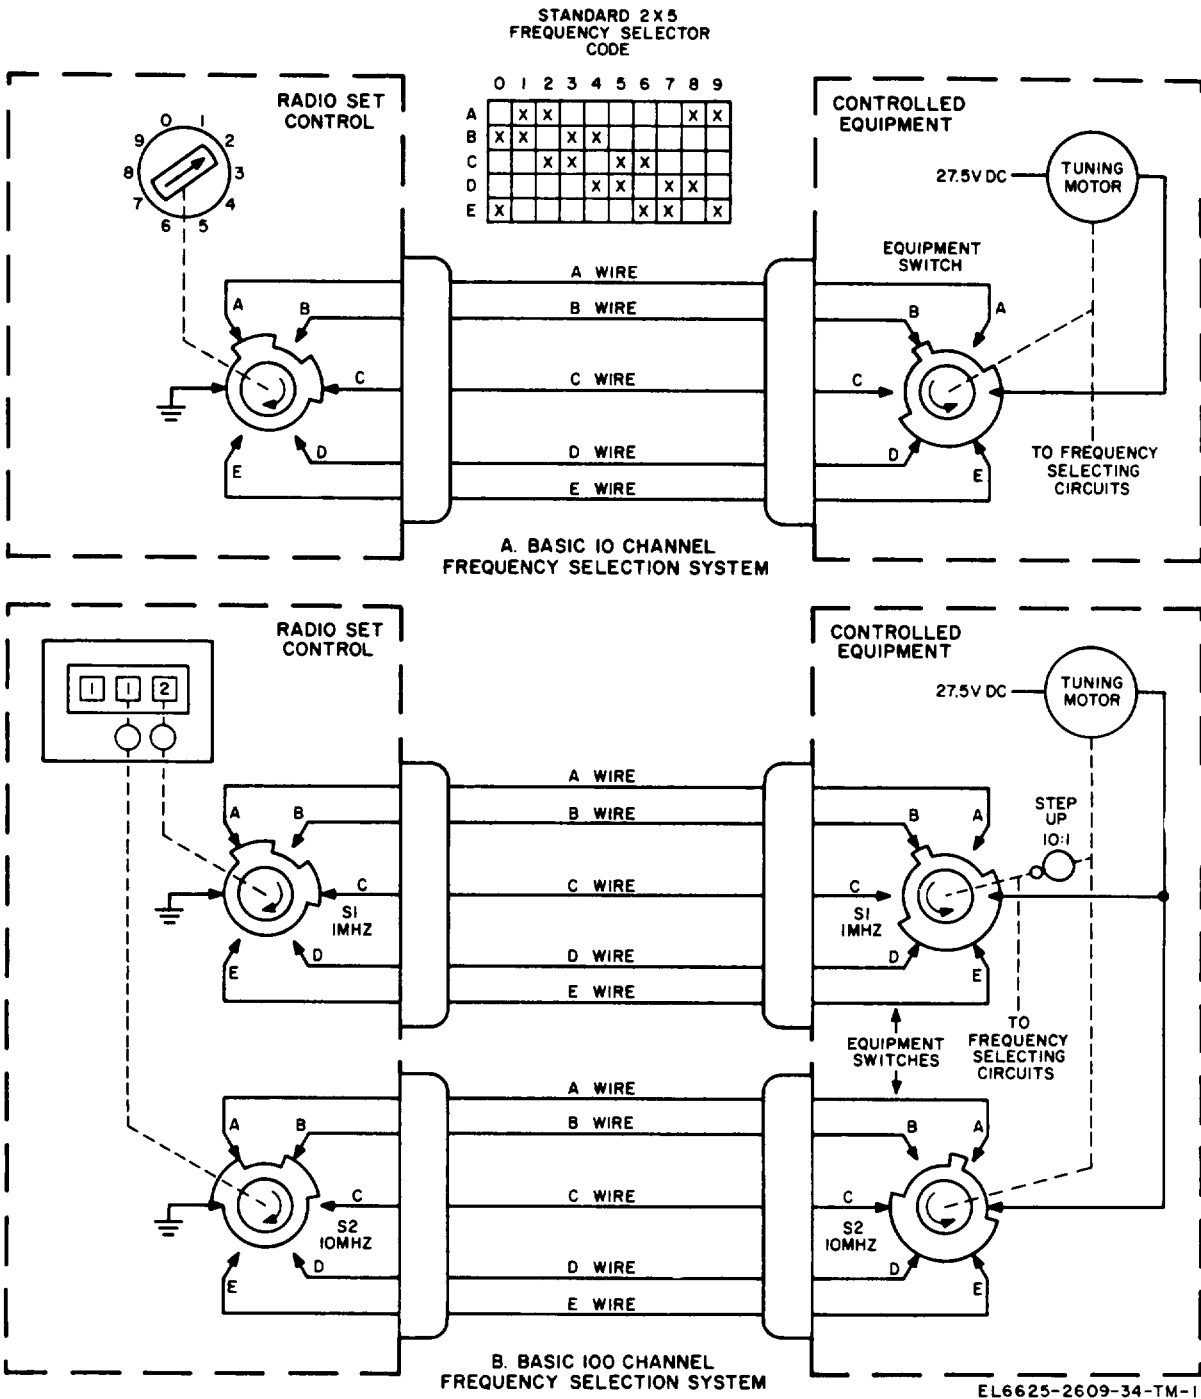

Figure 2-1. Basic two-out-of-five frequency-selection system.
a. The two-out-of-five (2 x 5) frequency-selection system requires five control wires for each controlled digit in a channel frequency. Frequencies are selected by simultaneously grounding two wires out of each five-wire group. A, figure 2-1, shows a simplified system for controlling an equipment having only 10 channels. Since each channel may be represented by a single digit, only one group of five control wires is required.
b. For example, when the radio control is set to position 2 (A, fig. 2-1) control wires A and C are grounded. The tuning motor then drives the switches and the frequency-selecting circuits in
the controlled equipment to a point where the ground is removed from wires A and C and the operating voltage is removed from the motor, By setting the radio control to the other positions, related two-wire combinations are grounded in accordance with the standard 2 x 5 frequency-selector code shown in figure 2-1.
c. B, figure 2-1, shows a system for controlling an equipment having 100 channels. Since two controlled digits comprise any one frequency channel, two switches are required in both the radio control and the controlled equipment. Two groups of five control wires interconnect the switches. To simplify the explanation, the 100 channels have been assigned frequencies from 100 to 199 MHz, with 1-MHz spacing between channels. Switch S1 is the 1-MHz selector and switch S2 is the 10-MHz selector. The radio control is shown set to 112 MHz. Of the five-wire group interconnecting switch S1 in the radio control and switch S1 in the controlled equipment, wires A and C are grounded, representing the digit 2 (2 MHz). Wires A and B, representing the digit 1 (1 MHz), are grounded in the five-wire group interconnecting switch S2 in the radio control and switch S2 in the controlled equipment. The tuning motor is driven until the ground is removed from wires A and C of S1 and A and B of S2. The gearing between the tuning motor and the switches in the controlled equipment is such that switch S1 (the 1-MHz switch) makes 10 revolutions for each complete revolution of switch S2. This provides 100 different points (channels) at which the tuning motor may be stopped.
d. Solid-state frequency-selection circuitry that uses the 2 x 5 selection system can be used in the controlled equipment, either in place of, or in combination with, the motor-driven arrangement (fig. 2-1). In any case, a group of five wires is required for each controlled digit, with selection being accomplished by grounding two of the five wires.